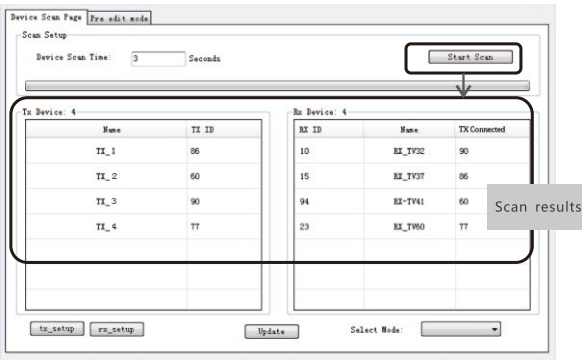

Figure 3
* Click button "Start Scan", the scanned result shows as Figure 3